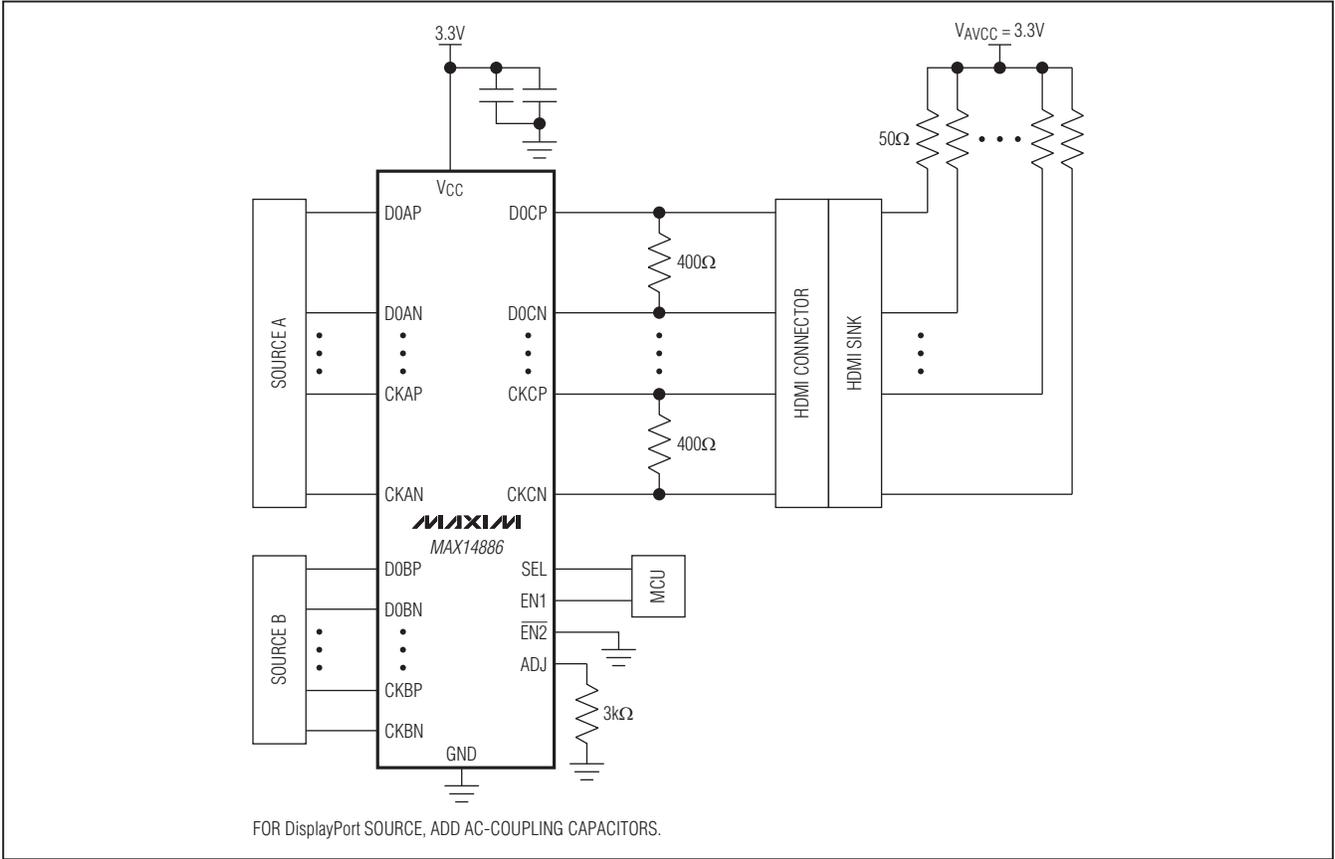

Figure 1. HDMI Driver Application with Output Back Termination
**EYE DIAGRAM, VIN = 200mVp-p, 2.25Gbps, 400Ω BACK TERMINATION, RSET = 3kΩ, FIGURE 1**
The level-shifter's output current and output signal swing are set with an external  $\pm 1\%$  precision 3.3k $\Omega$  (typ) resistor. If a double output termination (400 $\Omega$  typ) is desired for signal integrity reasons, the ADJ resistor value can be decreased to maintain a desired output swing (Figure 1).
The device's high-speed, low-skew, active redriver multiplexer is ideal for switching between outputs of dual-graphics systems and signal conditioning to meet HDMI v.1.4 compliance at an external HDMI connector (Figure 1). It is well suited for switching between integrated (e.g., Intel or AMD) and discrete graphics (e.g., NVIDIA or ATI GPU). The device is VESA DisplayPort Interoperability Guideline v.1.1a-compliant (requires external DDC logic) and integrates seamlessly with an external HDMI connector on the motherboard.